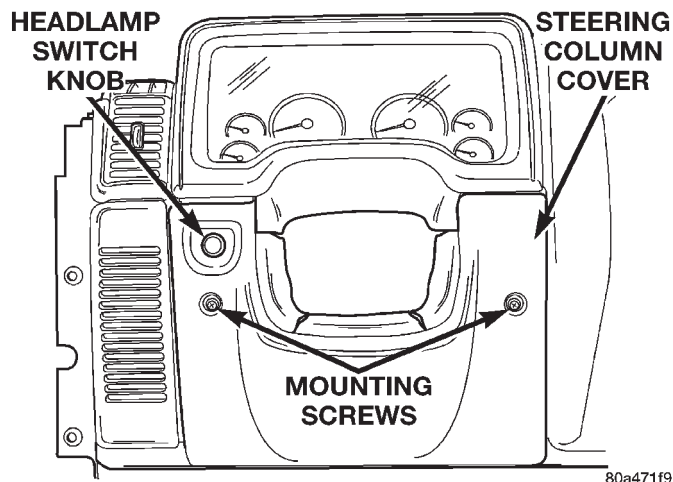

Fig. 3 Steering Column Opening Cover Remove/Install
(1) Disconnect and isolate the battery negative cable.
(2) If the vehicle is so equipped, move the tilt steering column to the fully raised position.
(3) Remove the knob and shaft from the headlamp switch. Refer to **Headlamp Switch** in the Removal and Installation section of this group for the procedures.
(4) Remove the two screws that secure the steering column opening cover to the instrument panel (Fig. 3).
(5) Pull the upper edge of the steering column opening cover straight back and down away from the instrument panel as far as possible.
(6) Rock the lower edge of the steering column opening cover rearward to disengage the hinge hook formations on the lower edge of the cover from the hinge pins on the lower edge of the instrument panel.